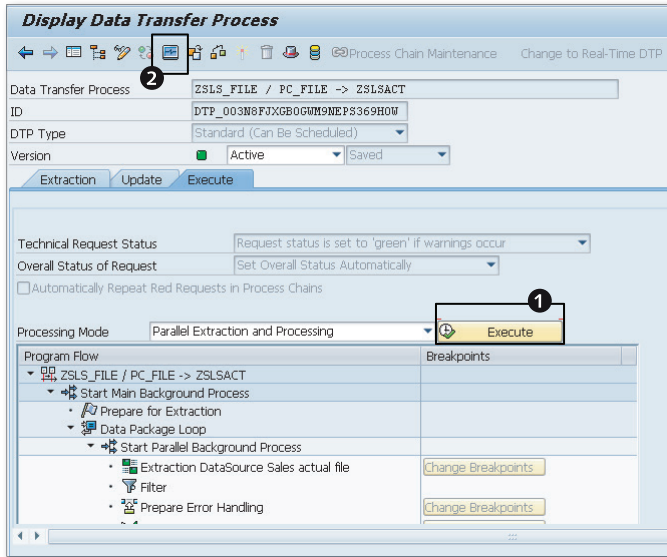

Figure 4.13 Execute Data Transfer Process
- Locate the DTP created earlier under the Sales InfoCube, and double-click on it. The pane on the right displays the details of the DTP object (Figure 4.13).
- Select the EXECUTE tab, and then click on the EXECUTE button (Figure 4.13, ①).
- Click on the MONITOR button to check the status of the load (Figure 4.13, ②).